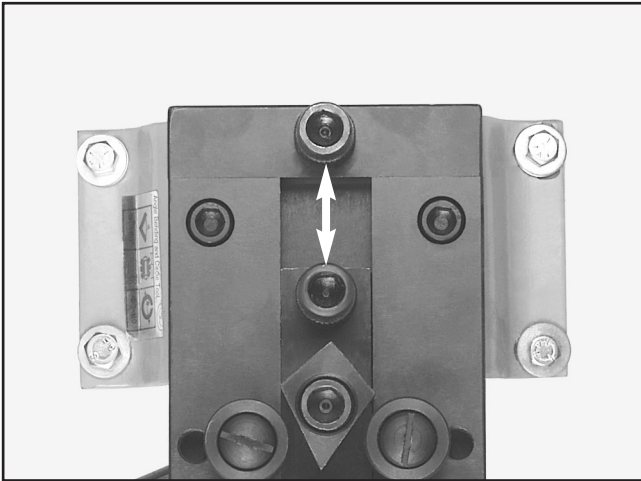

Figure 10. Metal placement.
4. Place the two pieces of metal to be riveted together (with the punched or drilled holes aligned) into the space between the press rollers (**Figure 10**).